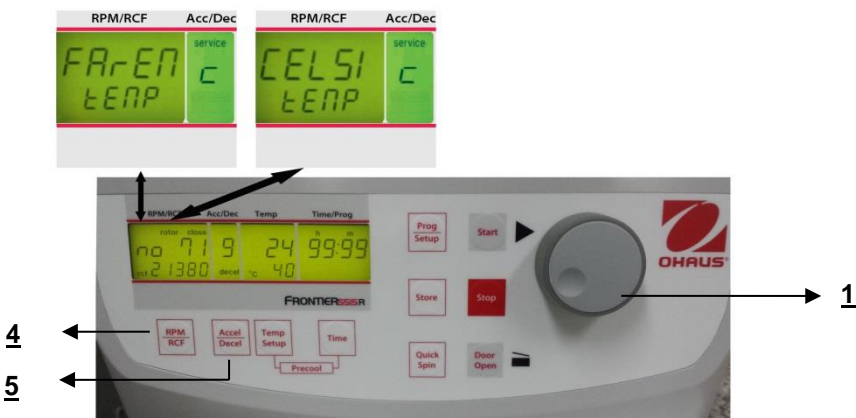

Figure. 32
Proceed as described under point 4.1.2 to enter this program mode and then press the key "Accel/Decel" (5). In the display "Acc/Dec" (A-2) the word "Service" appears. Now select the letter "C" with the adjusting knob (1). As a result, in the display "RPM | RCF" (A-1), the words "CELSI/temp" appear. If you press the key "RPM | RCF" (4), the word "CELSI" flashes and you can change the display into Fahrenheit "FAREN", with the adjusting knob (1) (See figure 32).